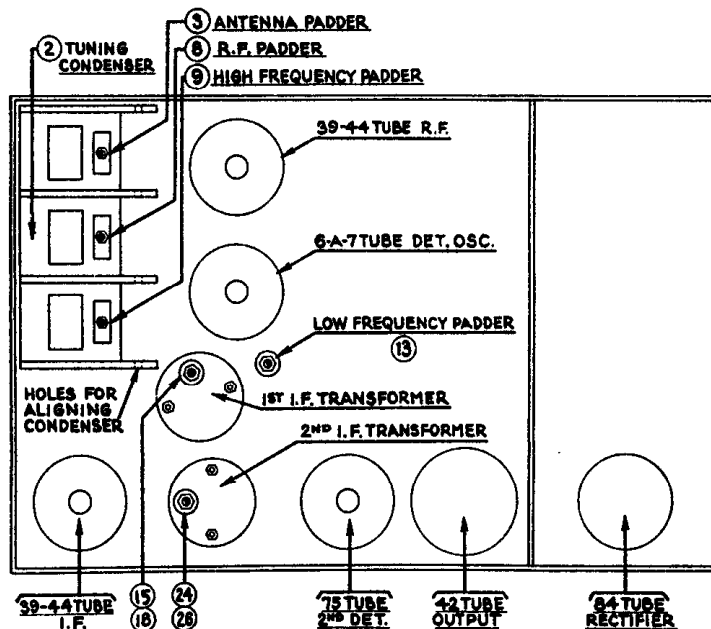

Fig. 43. Model 10 — I.F. 260 K.C.
Remove the speaker lid from the Receiver and disconnect the antenna lead from the Receiver. Remove the grid cap from the 6A7 tube (for location see Fig. 43).
Set up the signal generator and adjust it to exact 260 K. C. Connect signal generator lead to the grid cap of the 6A7 tube (see Fig. 43). The output meter must be connected by means of an adapter to the speaker prong of the speaker plug and to the chassis.
The condensers 24 and 28 are adjusted first (Fig. 43). Turn the adjusting screws all the way in. A metal screw driver can be used for this. Then, with the generator attenuator set so there
H. F. There are four holes in line, one in each of the sections of the tuning condenser housing. (See Fig 43) Place a nail of the size that fits snugly through the holes and then turn the condenser plates out of mesh until they strike against the nail.